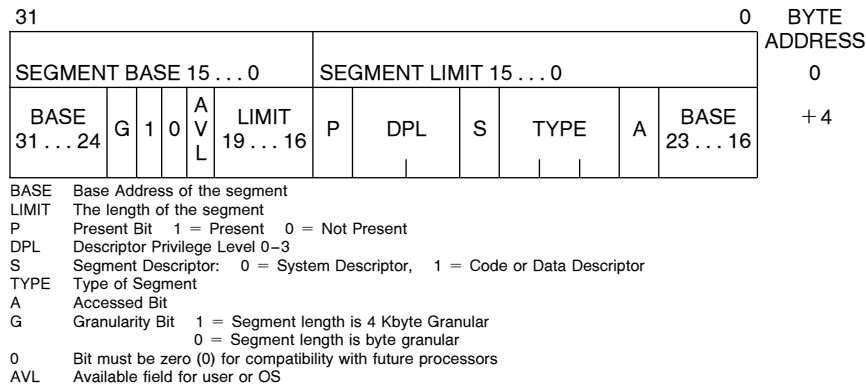

Figure 3.3. Segment Descriptors
ment, the 20-bit length and granularity of the segment, the protection level, read, write or execute privileges, and the type of segment. All of the attribute information about a segment is contained in 12 bits in the segment descriptor. Figure 3.3 shows the general format of a descriptor. All segments on the 80376 have three attribute fields in common: the Present bit (P), the Descriptor Privilege Level bits (DPL) and the Segment bit (S). P=1 if the segment is loaded in physical memory, if P = 0 then any attempt to access the segment causes a not present exception (exception 11). The DPL is a two-bit field which specifies the protection level, 0–3, associated with a segment.